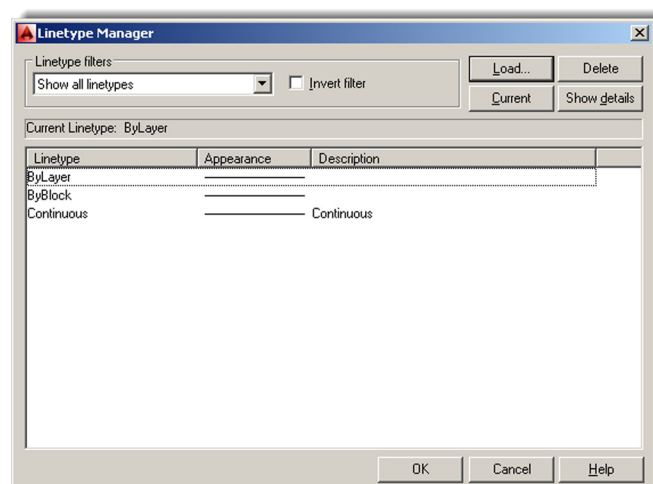

FIGURE 3.7
Step 1. Type in `linetype` and press Enter or choose Format→Linetype... from the cascading menu. The Linetype Manager (Figure 3.7) appears. If it is full of linetypes, it means they have been loaded earlier. If not, and the Linetype Manager is empty, go on to Step 2.